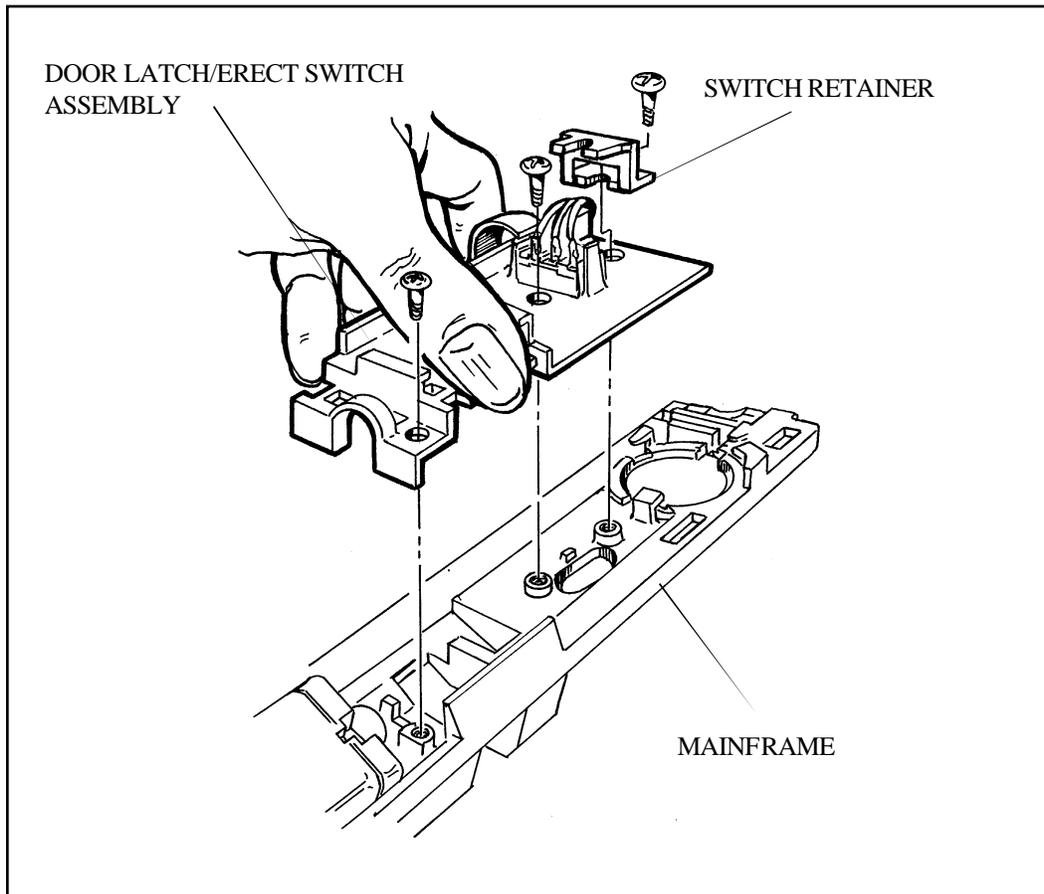

Figure 3-35. Removing Door Latch/Erect Assembly and Switch
- a. Remove the three screws holding the Door Latch/Erect Switch Assembly to the Mainframe (Figure 3-35). This also frees the Erect Switch Retainer and cable hold-down; don't lose it.